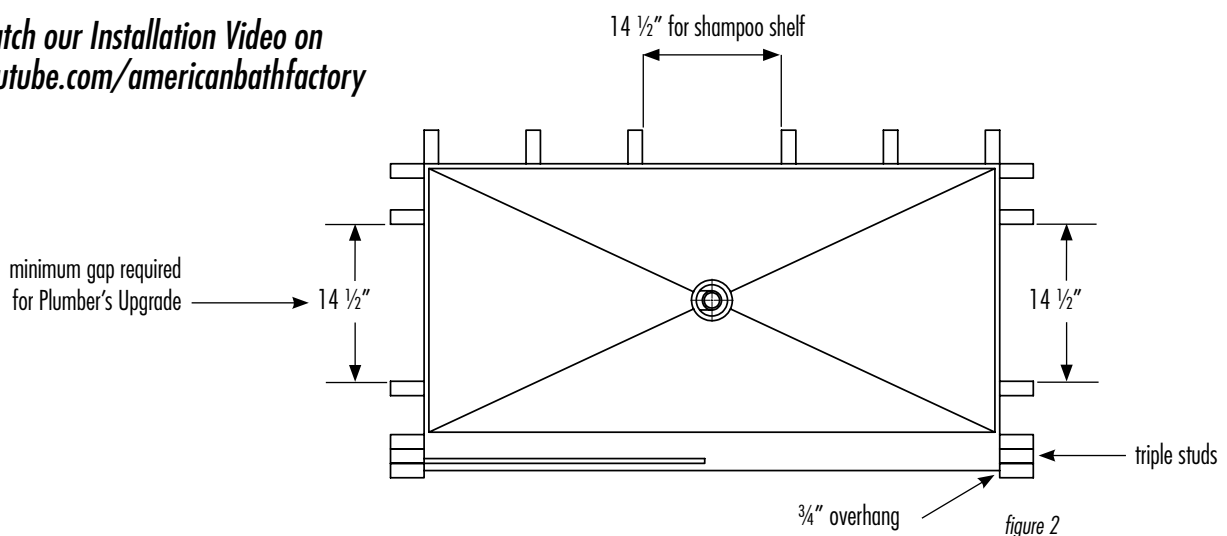

figure 2
1. Add studs where the shower panel and door connect. We recommend triple studs in these areas to make room for the cement board and hinge attachment. Leave a $3/4''$ overhang outside of the shower pan threshold if possible. Refer to (*fig. 2*).
2. Check the location and size of the drain, make sure it is in the correct position, relocate drain if necessary. See section (5) for drain instructions.
4. If you purchased the Plumber's Upgrade and/or the shampoo shelf, check that everything fits with clearance between the studs. Measure the studs to make sure they are $14\ 1/2''$ apart. See recommended stud locations (*fig. 2*). Relocate studs if necessary.